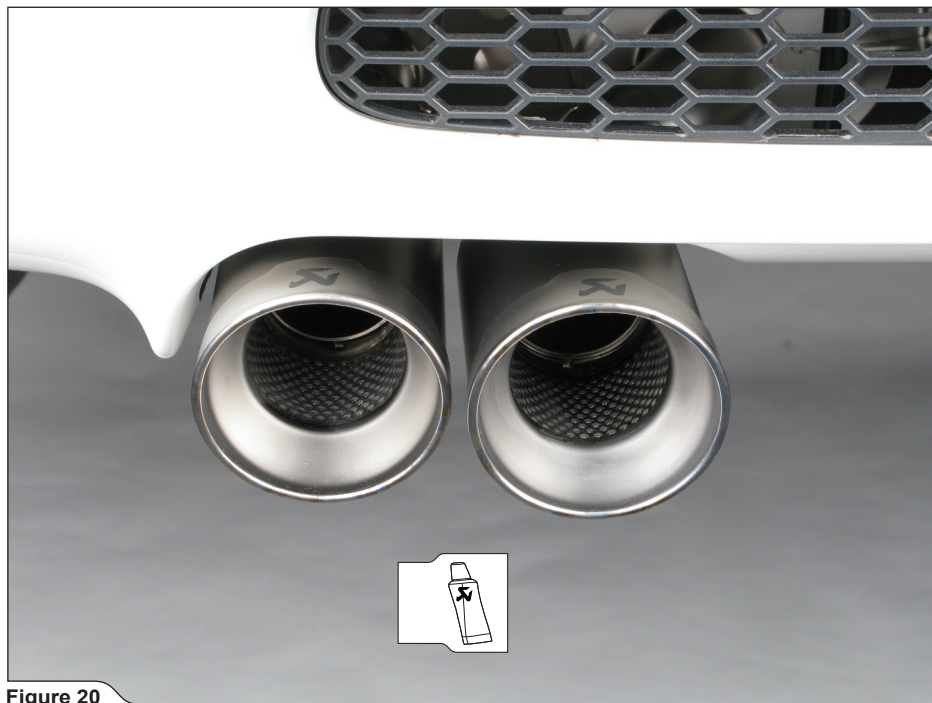

Figure 20
12. **For Slip-On and Evolution:** slide and center the Akrapovič tail-pipes (in respect to rear bumper) onto the mufflers' outlet pipes as shown on both sides of the vehicle (**Figure 20**).